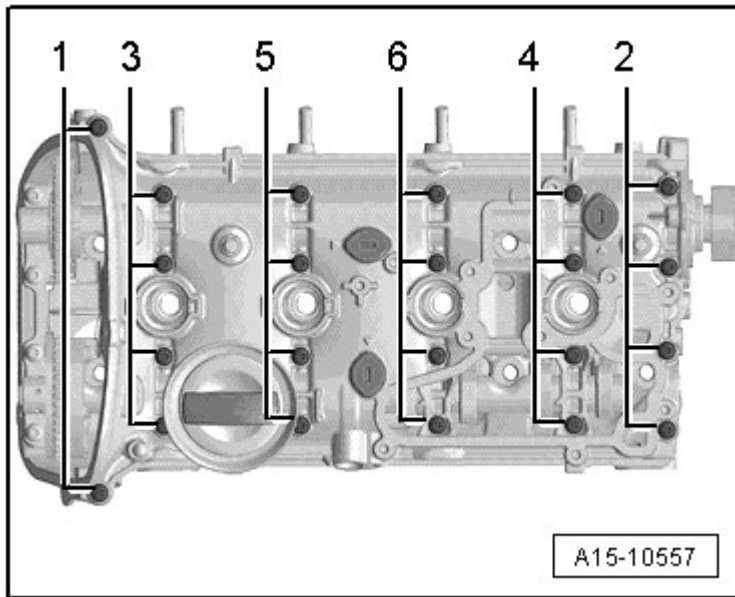

Fig. 22: Cylinder Head Cover Loosening Sequence
- Loosening, refer to **Fig. 22**